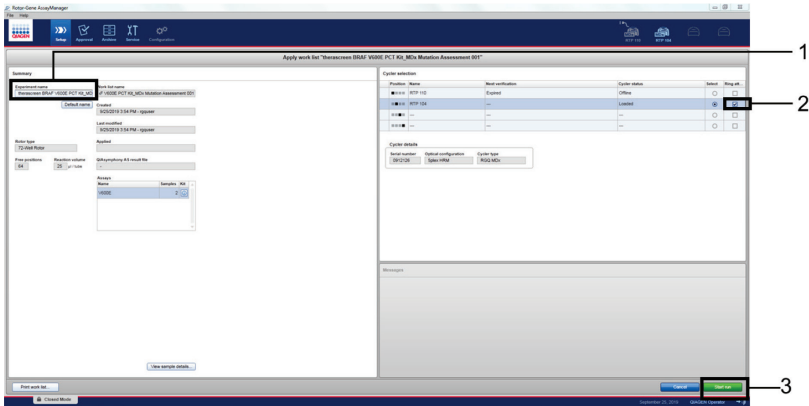

Figure 21. "Apply work list" window. 1 = "Experiment name" section. 2 = "Ring attached" checkbox. 3 = "Start run".
- Enter an experiment name in the "Experiment name" field. Ensure that the "Ring attached" box is checked and click Start run (Figure 21).